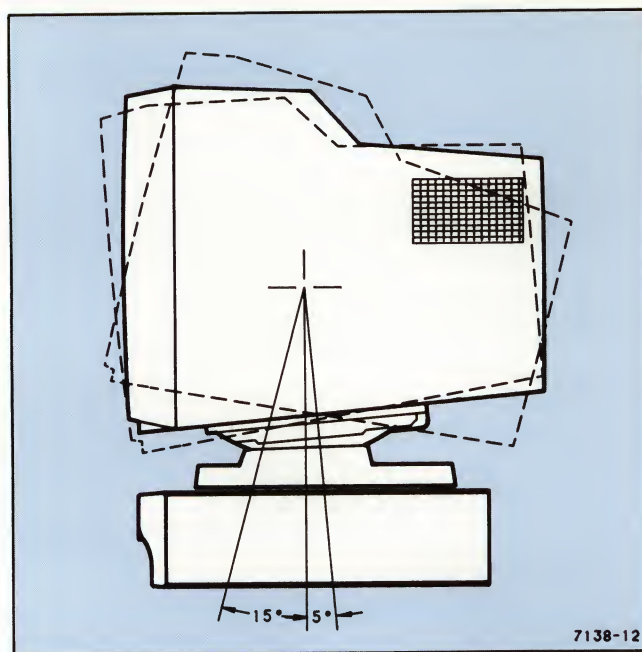

Figure 2-16. Display Module Tilt Swivel Adjustment.
- Using the Display module tilt-swivel stand shown in Figure 2-16, tilt the Display module forward or backward to a comfortable viewing angle. You can rotate the Display module side-to-side for further adjustment.